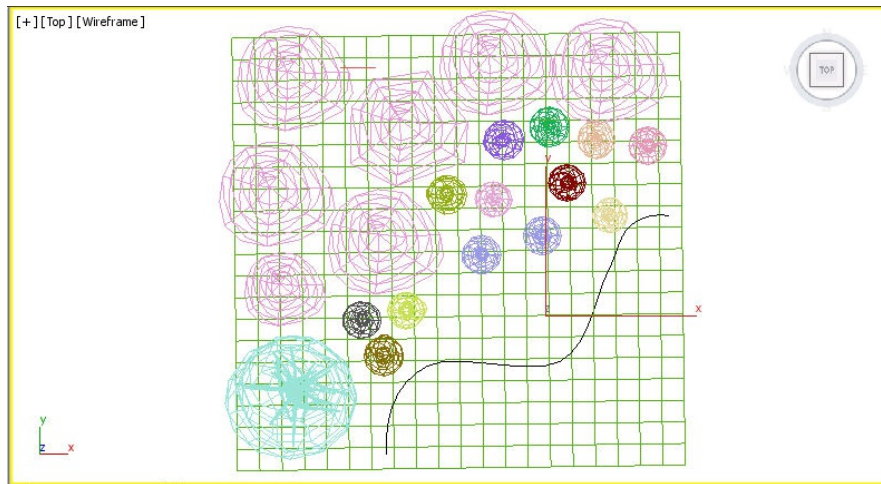

Figure 11-101 *The line created in the Top viewport*
1. Activate the Top viewport and choose **Create > Shapes** in the **Command Panel**; the **Splines** option is displayed in the drop-down list. Choose the **Line** tool from the **Object Type** rollout and create a line, as shown in Figure 11-101, which will be used as a path spline.